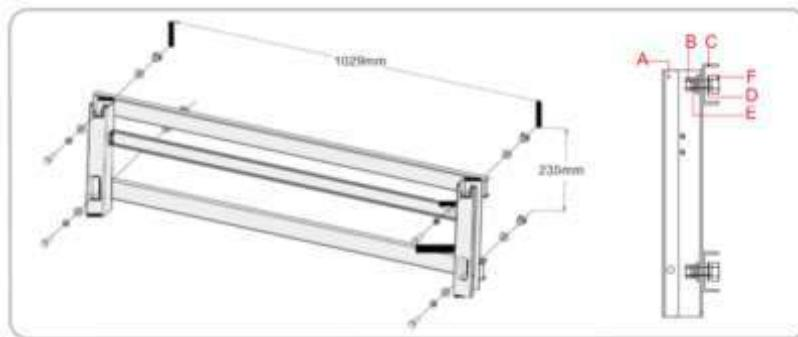

Fig. 4-12 Fastening sequence
- 3) Secure the mounting-bracket with bolts (Fig. 4-12 and Table 4-3).
- 3) Insert the expansion bolts into the holes and secure them with a rubber hammer. Fasten the nut with a wrench to expand the bolt. Remove the nut, spring washer, and flat washer, and store them properly (Fig. 4-12).